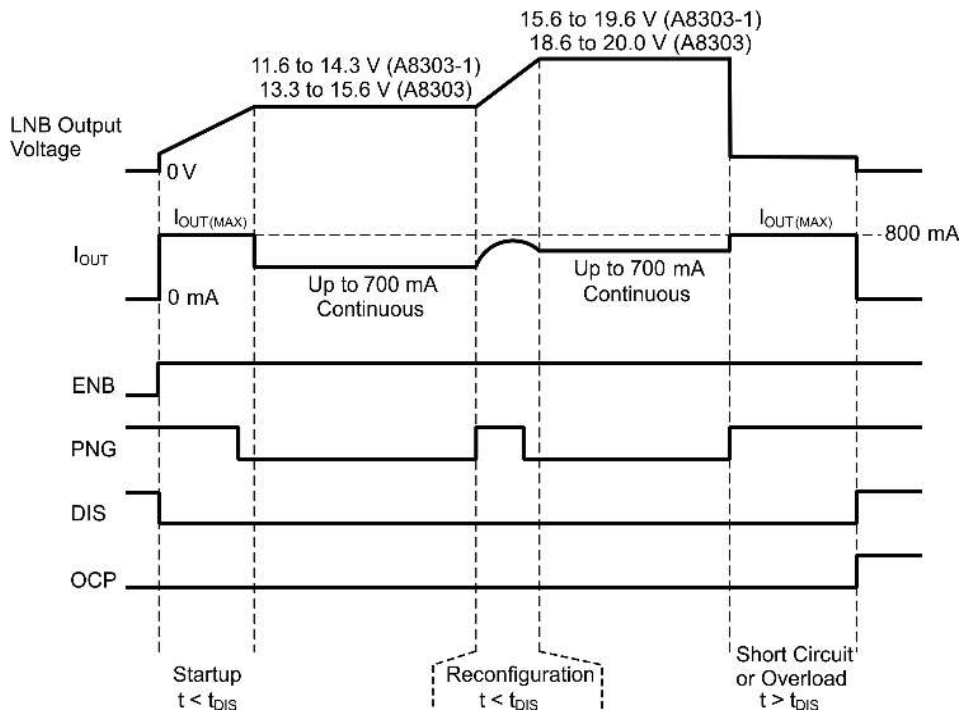

Figure 1. Startup, Reconfiguration, and Short Circuit operation using  $R_{SET} = 37.4 \text{ k}\Omega$ , and a capacitive load
**LNB and BOOST Current Limits.** The LNB output current limit,  $I_{\text{OUT(MAX)}}$  can be set by connecting a resistor (RSET) from the ISET pin to GND as shown in the applications schematic. The LNB current limit can be set from 300 to 800 mA, corresponding to an  $R_{\text{SET}}$  value of 100 to 37.4 k $\Omega$ , respectively. If the LNB current limit is exceeded for more than the Overcurrent Disable Time ( $t_{\text{DIS}}$ ) then the A8303 and A8303-1 will be shut down and the OCP bit set, as shown in figure 1. The LNB output current limit can be set as high as 950 mA ( $R_{\text{SET}} = 31.6 \text{ k}\Omega$ ) but care should be taken not to exceed the thermal limit of the package or thermal shutdown (TSD) will occur. The typical LNB output current limit can be set according to the following equation:
If the LNB output current exceeds the set output current, for more than 45 ms, then the LNB output will be disabled and the OCP bit will be set. See figure 1.